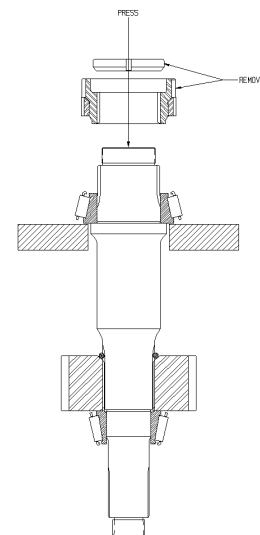

Fig. 29
3. Remove front support bearing as shown. *See Fig. 29.*